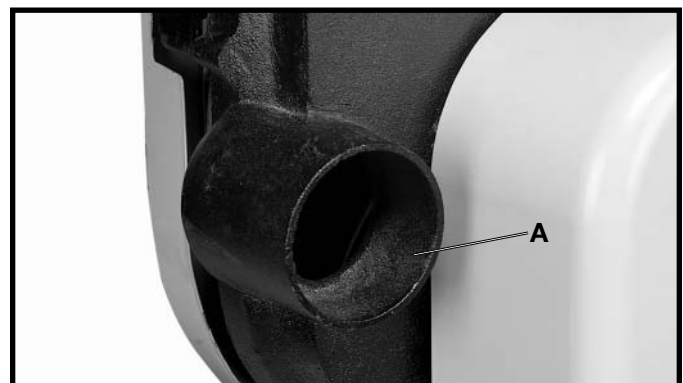

Fig. 36A
A dust port (A) Fig. 36A, enables you to connect your band saw to a dust collector. The dust port is 4" O.D.